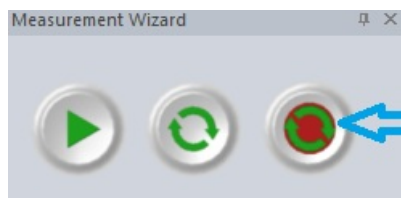

Figure 10.
- 13 Click the video icon – a window will appear that displays a real-time view of the sample (Figure 10).